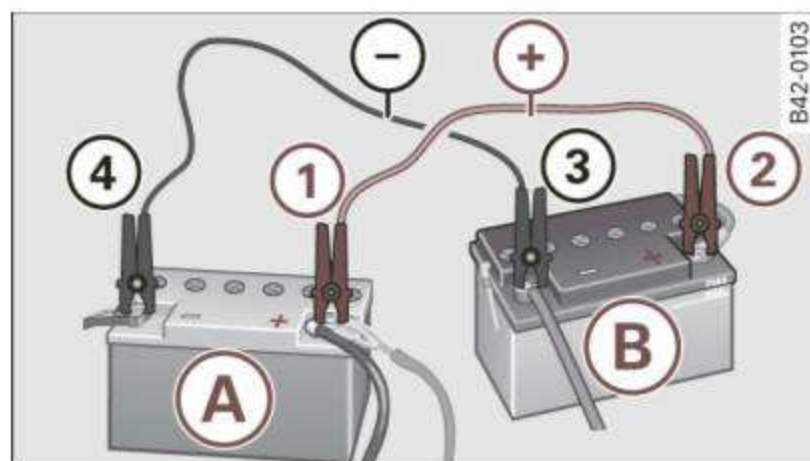

Fig. 136 Jump start using the battery in another vehicle: A - Discharge, B - Female socket
1. Connect one end of the red jumper cable ⇒ fig. 136 ① to the positive terminal of discharged battery (A).
2. Connect the other end of the red jumper cable to the positive terminal ② of the booster battery (B).